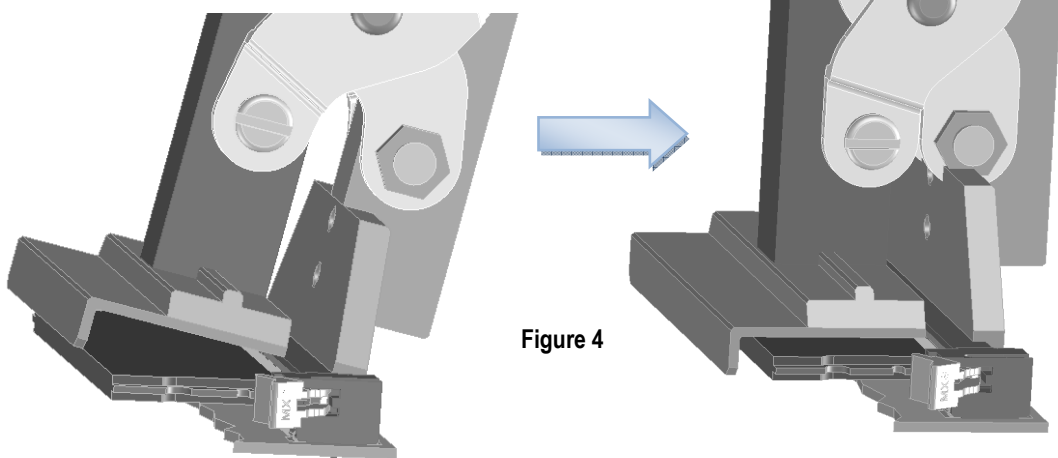

Figure 4
6. Place the tool on the back edge of the MiniDIMM socket, and then rotate the tool downward so the jaw with the long lip is behind the memory card. See Figure 4.